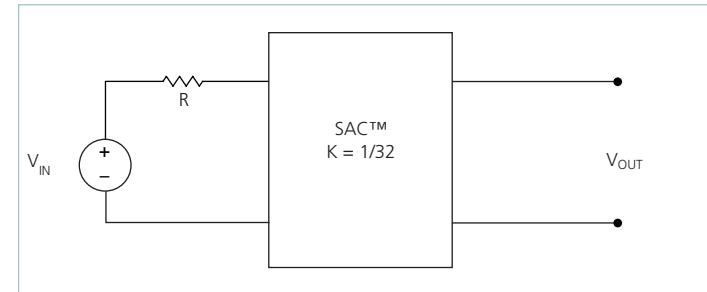

Figure 18—K = 1/32 Sine Amplitude Converter™ with series input resistor
The use of DC voltage transformation provides additional interesting attributes. Assuming that  $R_{OUT} = 0\Omega$  and  $I_Q = 0A$ , Eq. (3) now becomes Eq. (1) and is essentially load independent, resistor R is now placed in series with  $V_{IN}$  as shown in Figure 18.
Assuming that  $R = 1\Omega$ , the effective  $R$  as seen from the secondary side is  $0.98m\Omega$ , with  $K = 1/32$  as shown in Figure 18.